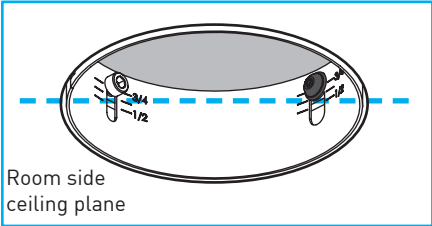

Fig.13
**Important:** Collar must not protrude beyond ceiling plane **"Fig.13"**.